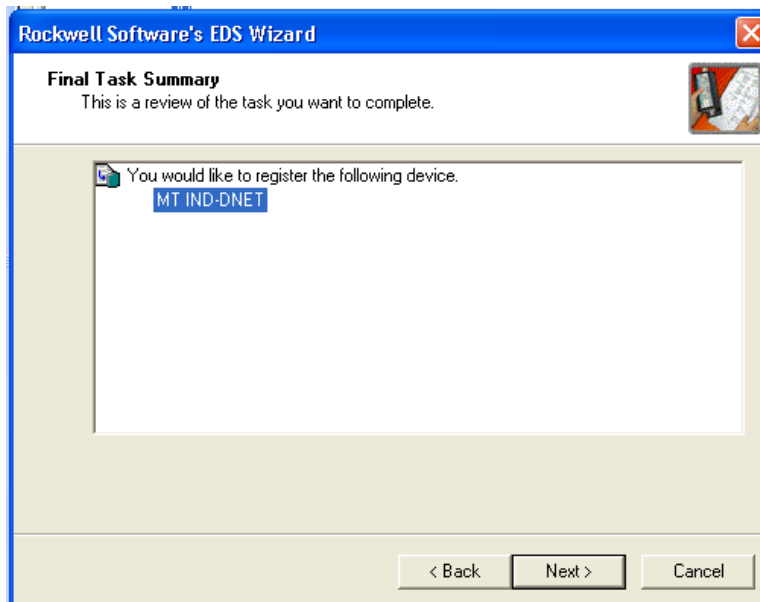

Figure 5-11: Final Task Summary Screen
10. The Final Task Summary screen (Figure 5-11) will appear. Click Next.